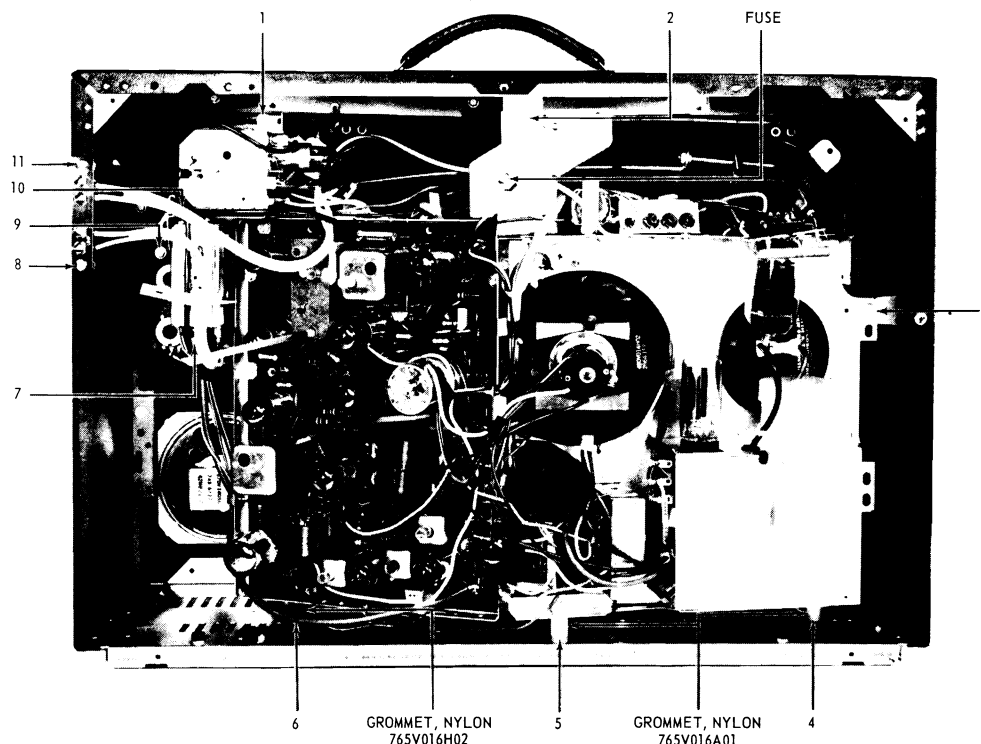

Figure 2 – Rear view of 19" chassis, showing location of screws for chassis removal.
19" Models with V-2475-4 Chassis (Refer to Figure 2)
5. Remove the screws numbered 1 through 11 in Figure 2.